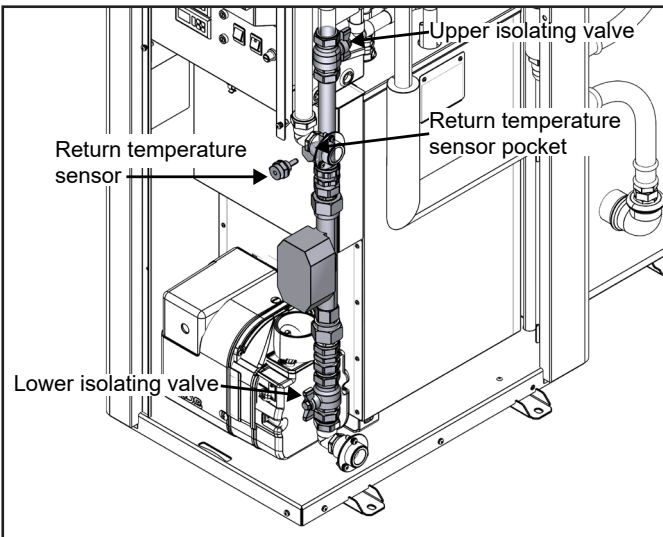

Figure 7-12: Flow meter fitted
- Using the two fibre washers (provided with the flow meter), fit the flowmeter between the joint faces of the upper and lower tails and tighten the union nuts. Refer to Figure 7-12.
1. Locate the return temperature sensor point on the return pipe above the flow meter. Refer to Figure 7-12.